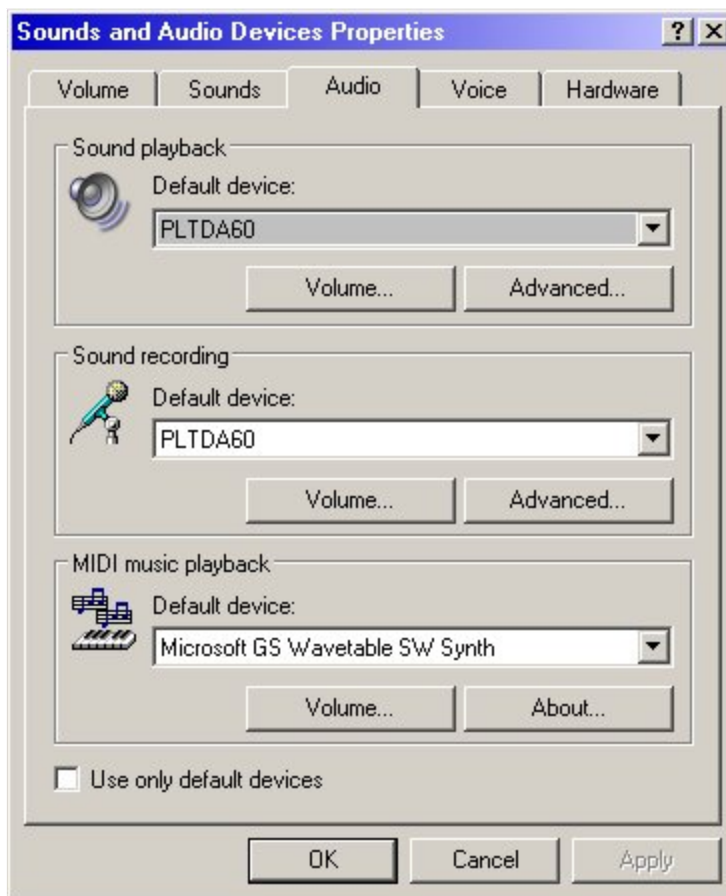

Figure 267. Appearance of the Sound and Audio Devices Properties, Audio tab
1. Open the Control Panel (Start Menu and then Settings). From the Control Panel, select the Sounds and Audio Devices icon. When the window appears, click on the Audio tab. A window similar to Figure 267 should appear.
2. The Sound playback default device should be "PLTDA60" as seen in Figure 267. The Sound recording default device should also be "PLTDA60".